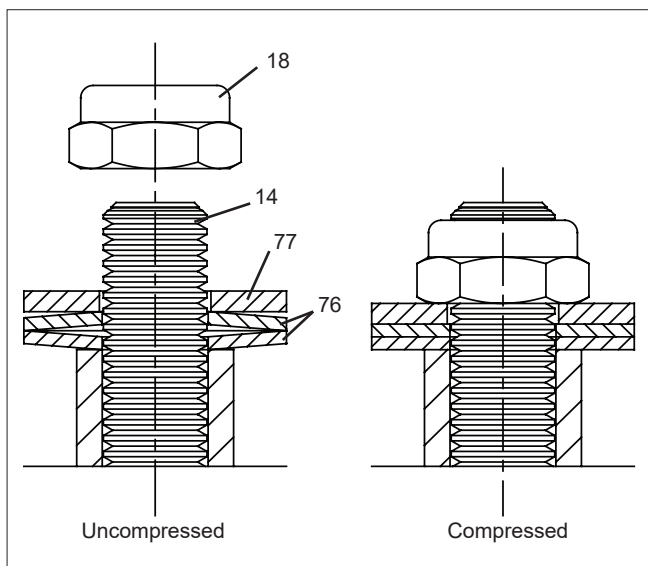

Figure 5. Proper Disc Spring Orientations
9. Place the compression ring (9) on the stem (5) and fit the compression plate (10) over stem (5) and bonnet studs (14). Place one stop bushings (50) over each bonnet stud (see **Figure 5** for proper orientation).
10. Place indicator stop (32) over the stem (5). A tamper-proof pin in the stem will allow the indicator stop onto the stem only one way. At this point, the stem with the indicator stop mounted and located between stop bushings (39) is positioned so that a counterclockwise rotation of the stem will open the valve.
**NOTE:** For valves with the "FO" option, (see Identification Plate), the indicator stop (32) is marked "FO". When placing the indicator stop over the stem, "FO" marking must be facing up. At this point, the stem with the indicator stop mounted and located between stop bushings (39) is positioned so that a clockwise rotation of the stem will open the valve.
11. Place retaining ring (34) over the stem and into the groove on the stem.
12. Place two disc springs (76) over each bonnet stud (14), (see **Figure 5** for proper disc spring orientation). Place a flat washer (77) over each bonnet stud (14).